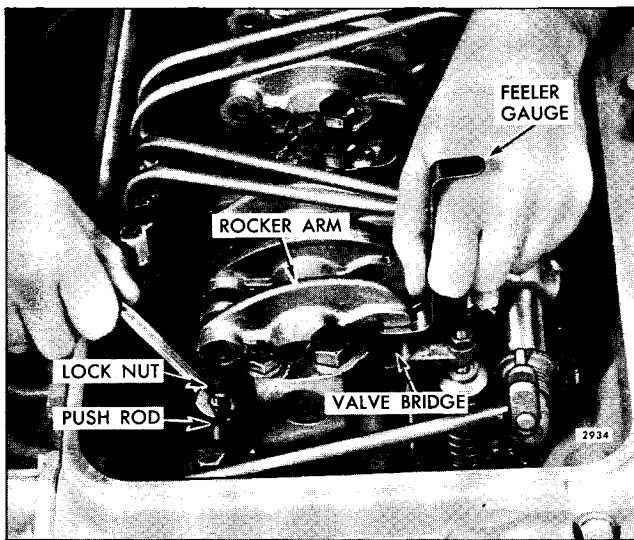

Fig. 2 - Adjusting Valve Clearance--
3. Loosen push rod lock nut, Fig. 2.